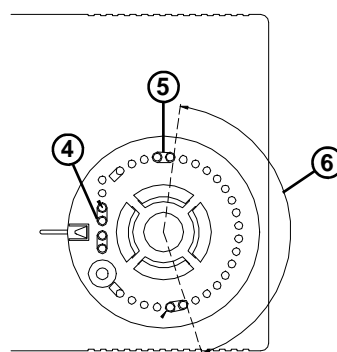

Fig. 6
1. Remove the knob by tilting it, eventually with the help of a screwdriver placed in the slot (1).
2. Pick up the plastic pins (4) parked at one side of the knob area and set them (5) as in the example of Fig. 6. In this example the rotation range (6) is reduced as in the shown angle.